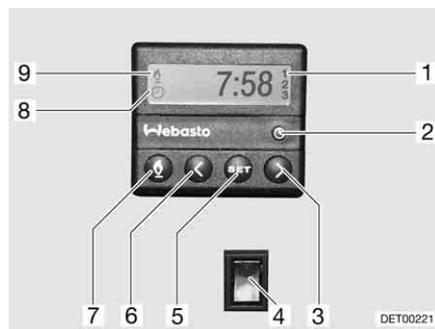

Fig. 188 Operating unit for independent vehicle heater
- Press the button (Fig. 188,7). The heating mode is displayed by the symbol (Fig. 188,9). The fan will only be switched on when there is a coolant temperature of 30 °C.
- Press the button (Fig. 188,7). The symbol (Fig. 188,9) goes off.
- Press the lower part of the switch (Fig. 188,4). Engine is preheated. The fan is switched on immediately.
- Press the upper part of the switch (Fig. 188,4). Engine stays cold.
- Press the button (Fig. 188,2). The time setting is displayed by the symbol (Fig. 188,8).
- Set the time with the buttons (Fig. 188,3 and 6).
- Press the button (Fig. 188,5).
- Set the switching on time within ten seconds, with the buttons (Fig. 188,3 and 6).
- Keep pressing button (Fig. 188,5) until the selected programme number (Fig. 188,1) appears in the display.